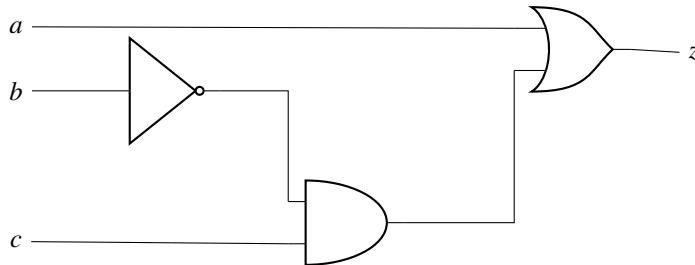

Fig. 3.30
46. Consider the Boolean function $Z(a, b, c)$. Which one of the following minterm lists represents the circuit given below in Fig. 3.30?